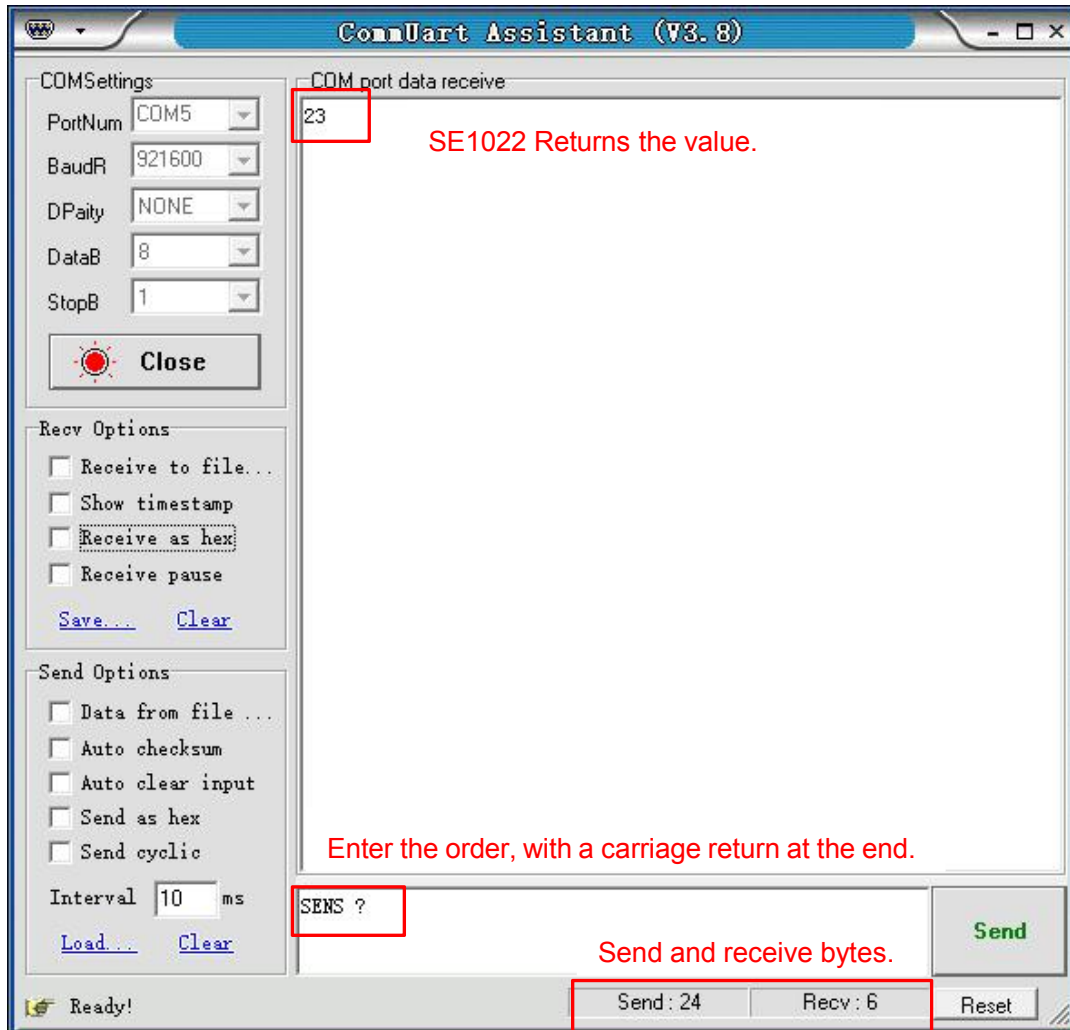
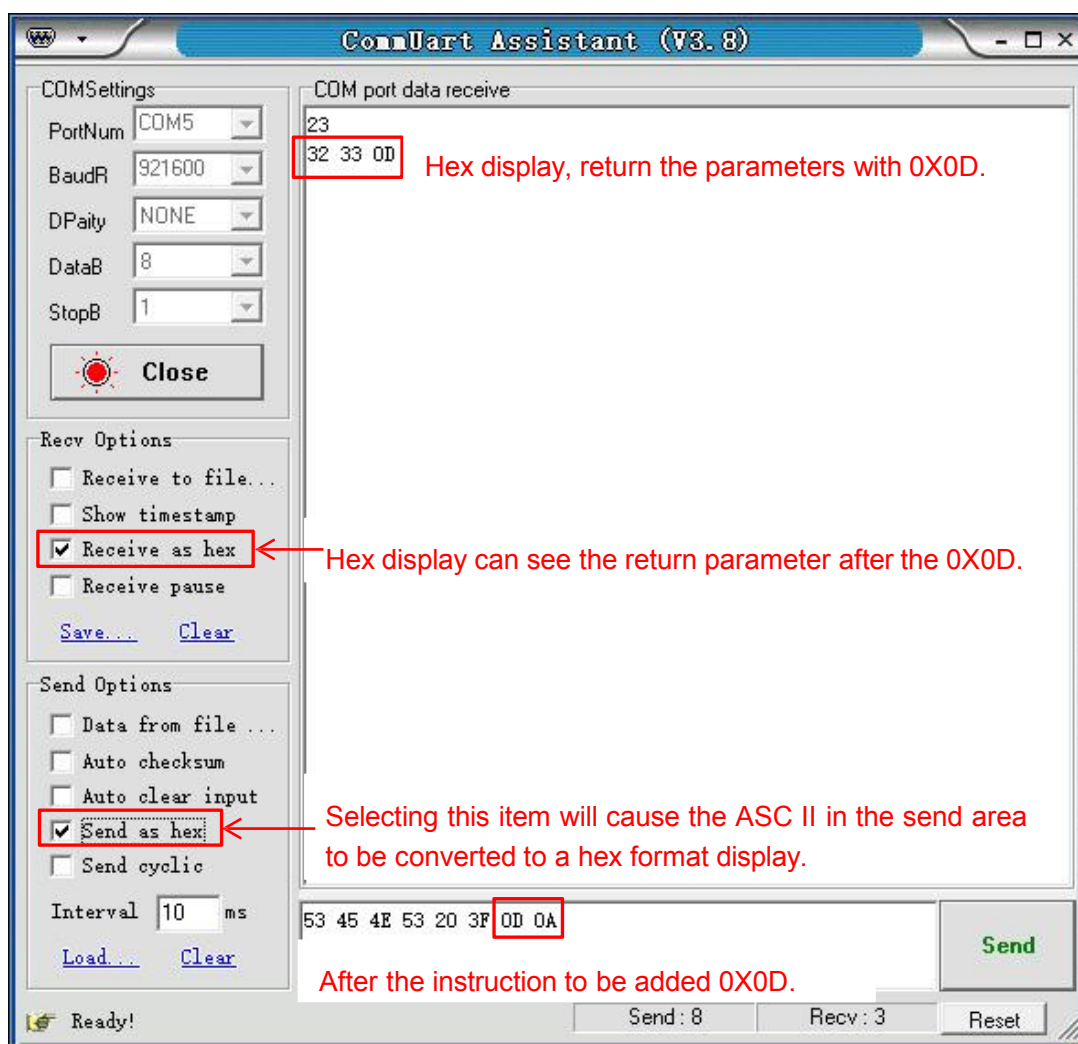

Fig.109 Send and Receive Commands in ASCII Words
Fig.110 Send and Receive Commands in HEX
(1) The commands consist of four upper mnemonics, option parameters and a terminator. Several commands at the same line are separated by semicolons. More details please see Chapter 4 Remote Programming. The terminator can be a carriage return <cr> or a hexadecimal number 0D. When sending the command, first input the command in the sending area, then press the Enter key, then click the 'Send' button, the command will be sent. As shown in Fig.109 and Fig.110.